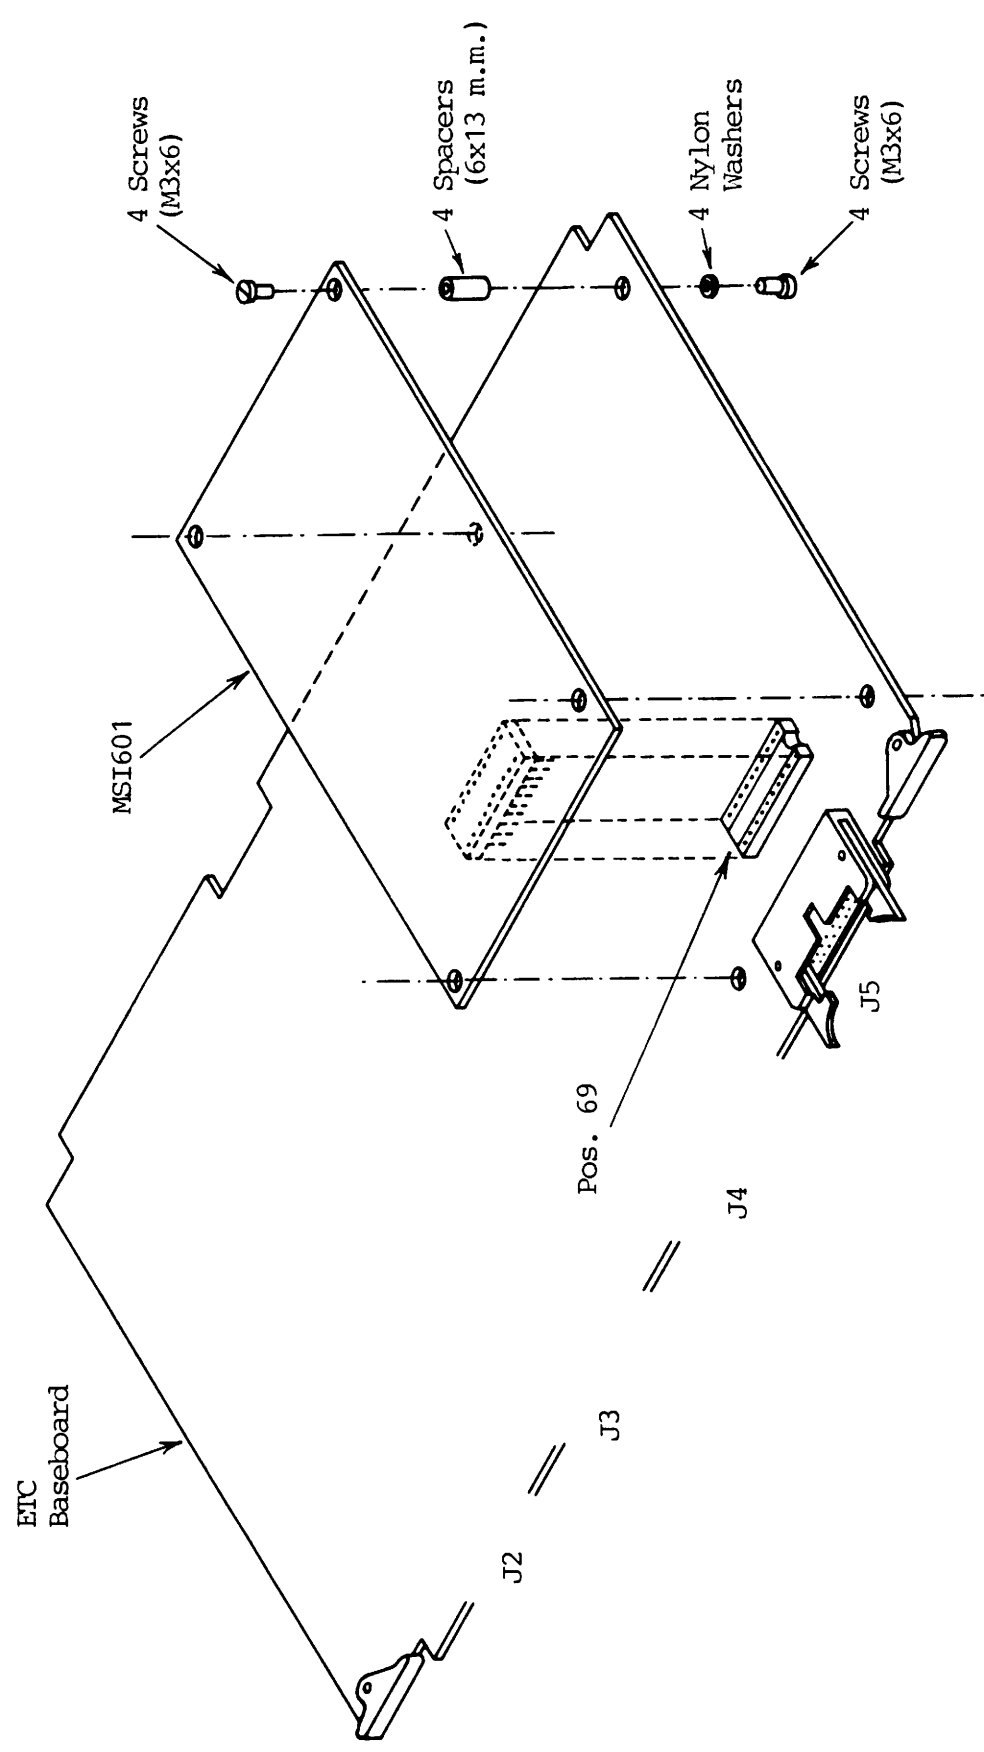

Fig. 3 Inserting MSI601 Board
4. Insert the MSI601 board in ETC socket position 69. Observe that the 20 pins eurodip adapter of the MSI matches the corresponding socket on the ETC baseboard (see fig. 3).
6. Verify correct installation by running Ethernet test 2 (ref. 2).